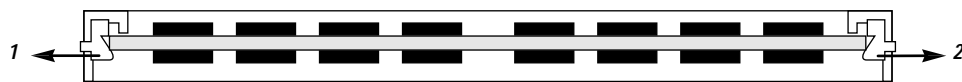

Figure 5-6 Releasing the SIMM spring clips
2. *To release a SIMM strip, push outward on the spring clip on one side of the SIMM strip. Then while supporting the SIMM, push outward on the other spring clip to release the SIMM from its socket. (See Figure 5-6, arrows marked 1 and 2.)*